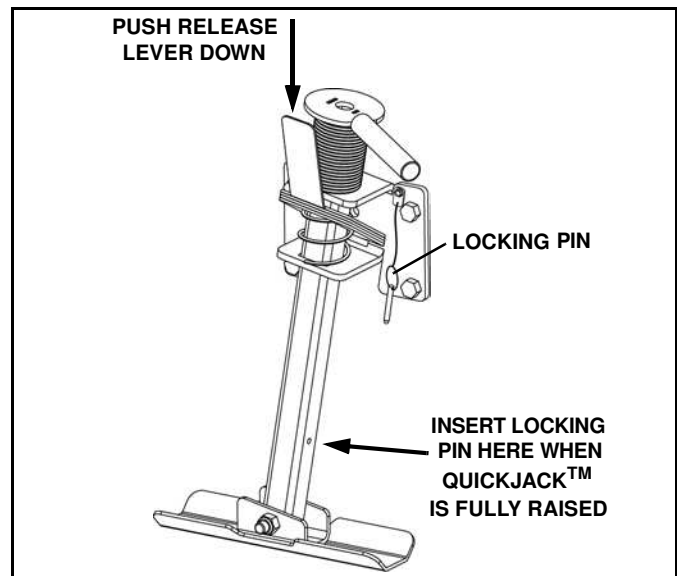

Figure 1-24
4. Raise QuickJack™ foot by pushing down on its release lever. Insert the locking pin in the QuickJack™ tube to prevent the jack from dropping during transport or plowing operations. (See Figure 1-24).
6. Release the foot, insert the foot locking pin (see Figure 1-24) and connect the lighting harness.